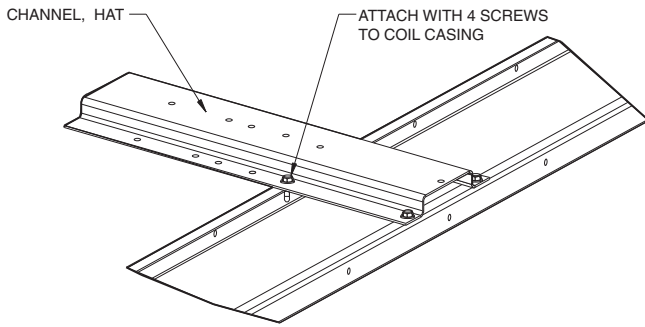

Fig. 175 — Spacer (Hat Channel)
- Remove the spacer (hat channel) secured to the top center of the lower coil casing (see Fig. 175) and set aside.